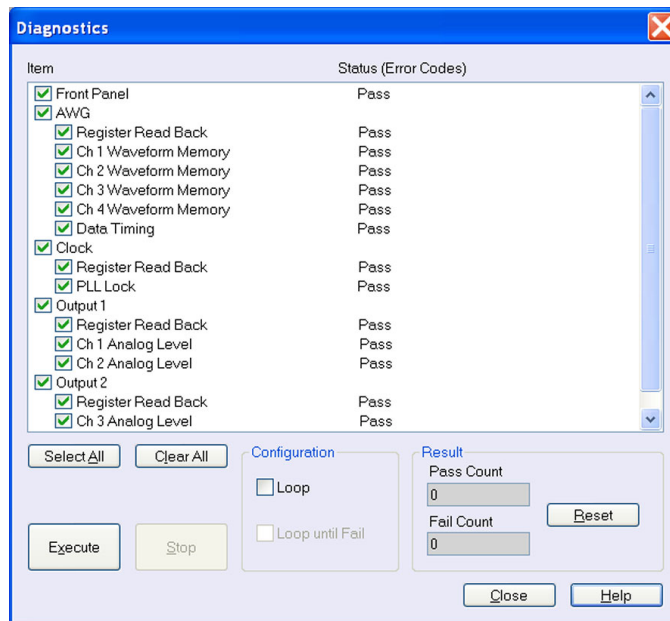

Figure 30: Diagnostics dialog box
2. From the menu bar, select **System** and then select **Diagnostics...**; the Diagnostics dialog box appears. (See Figure 30.)